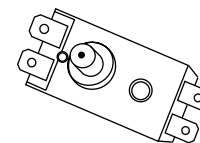

Fig. 9
- for ME2 series water heaters: unscrew retaining nut of the thermal switch, fastened on the flange of the heating element, turn over the thermal switch and press the button, located in the center of the thermal switch, until it clicks, Fig. 9;